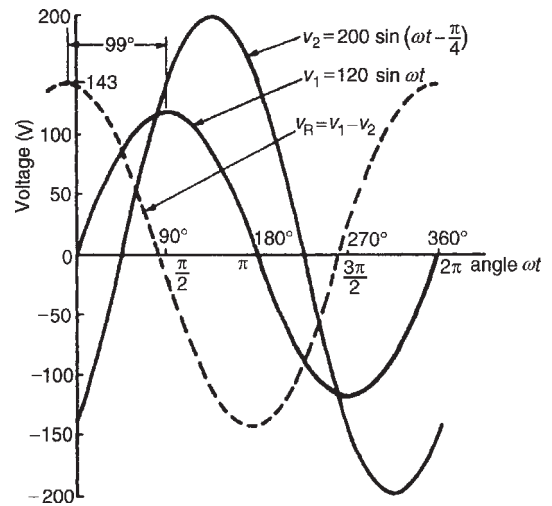

Figure 16.13
- (a) $v_1 = 120 \sin \omega t$ and $v_2 = 200 \sin(\omega t - \pi/4)$ are shown plotted in Fig. 16.13. Care must be taken
The resultant waveform, $v_R = v_1 - v_2$, is shown by the broken line in Fig. 16.13. The maximum value of v_R is 143 V and the waveform is seen to lead v_1 by 99° (i.e. 1.73 radians)